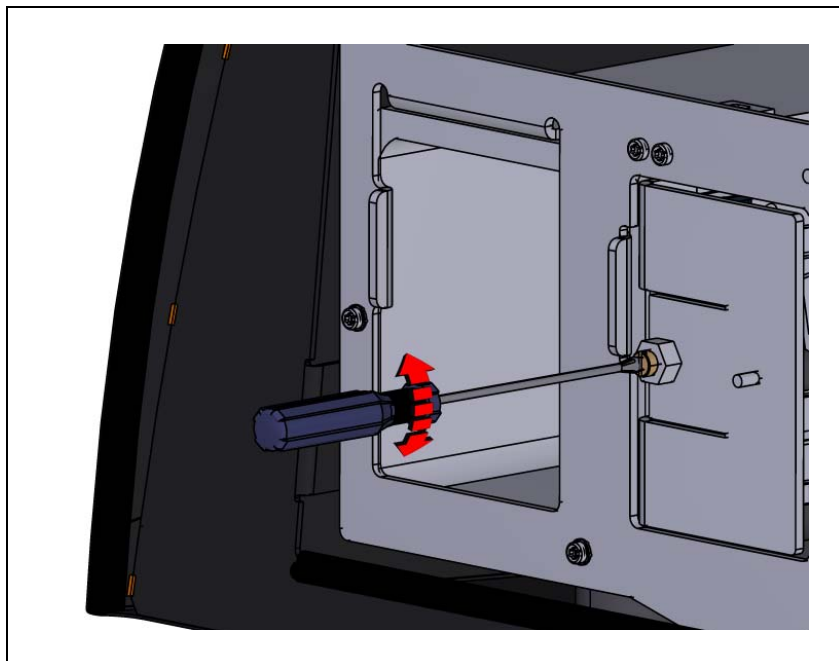

Figure 5-12. Adjusting the end stop bumper.
5. Use a large flat screwdriver to adjust the bumper closest to the X beam (see Figure 5-12).